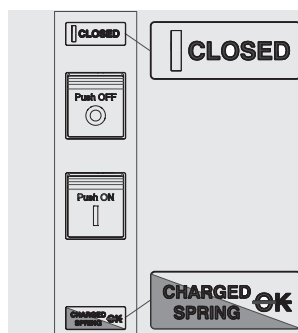

Figure 34
4. Circuit-breaker closed with springs charged and not ready to close (see Figure 34). This state occurs when after closing (see step 4 - Manual operations for opening and closing the circuit-breaker) the springs are recharged manually or automatically by the gearmotor (if provided).